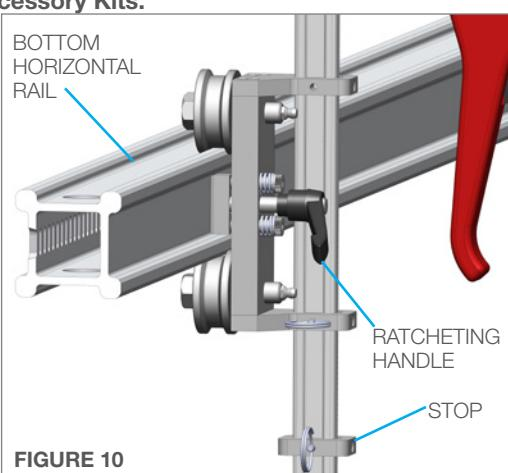

FIGURE 10
- Slide the bottom Horizontal Rail Assembly into the bottom Support Brackets. Slot orientation does not matter on the Bottom Rail. Tighten the Ratcheting Handle, securing the rail to the Support Brackets. The Bottom Rail can replace the Top if the slots become worn. (**Figure 10**)